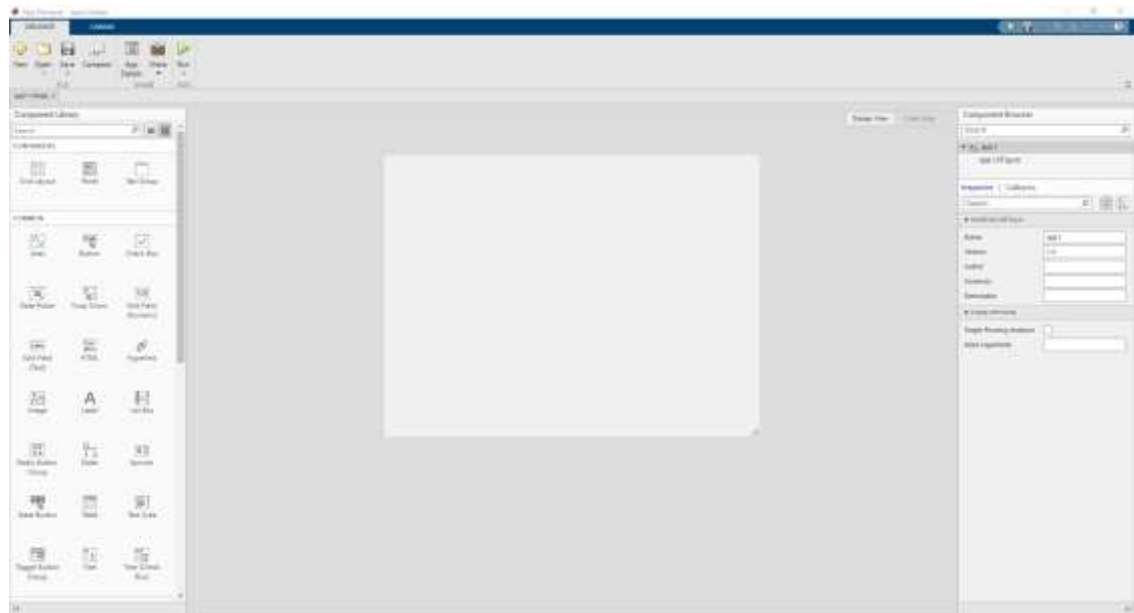

Figure 6: Default Screen of the App Designer
3. The Default Window Should Look Like the picture Shown in Figure 6.